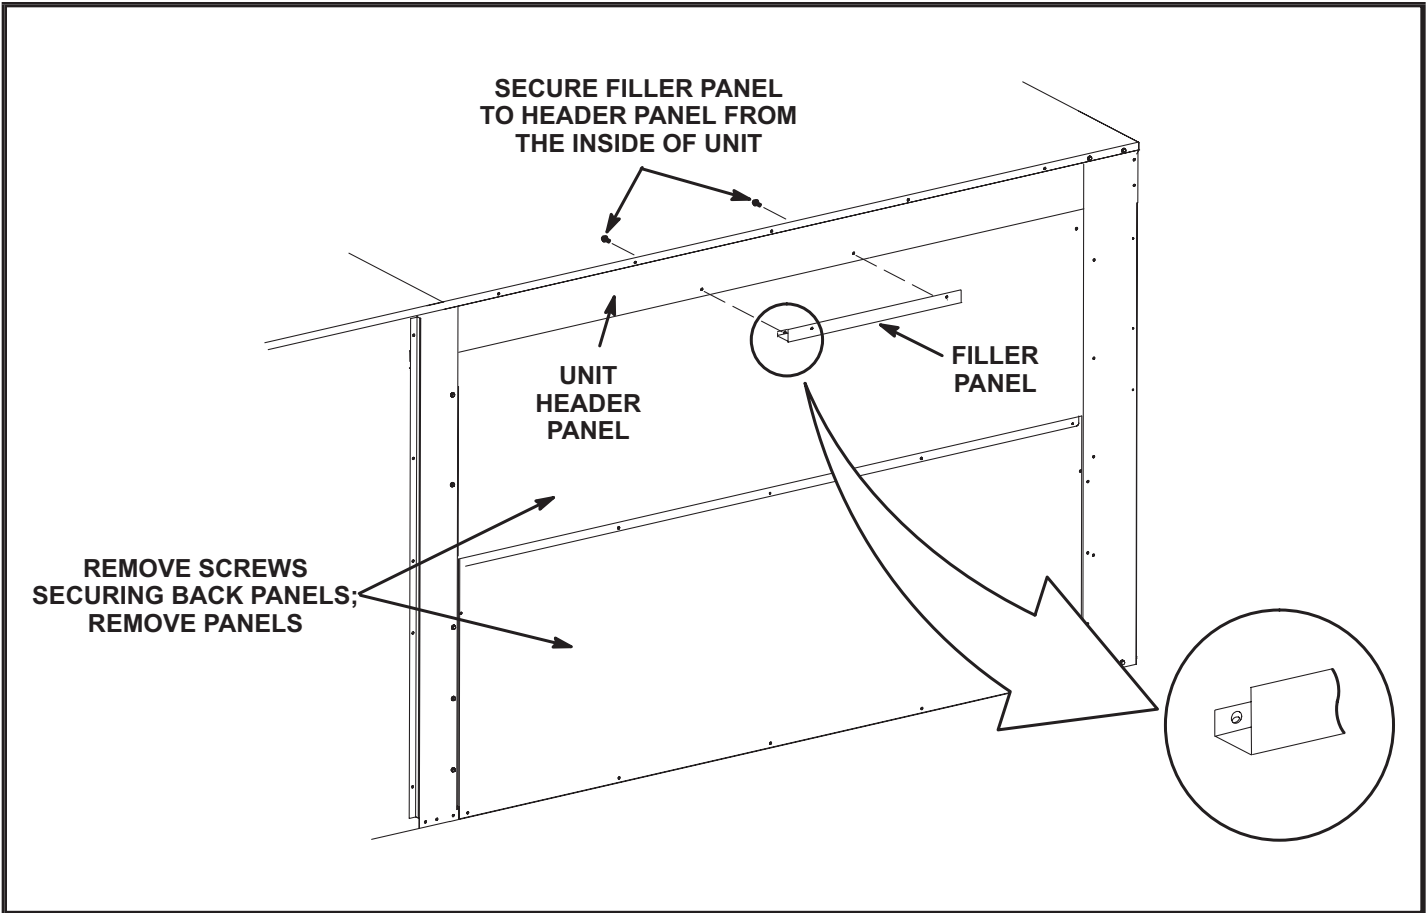

FIGURE 3
- 2 - Secure filler panel to header. See FIGURE 3.